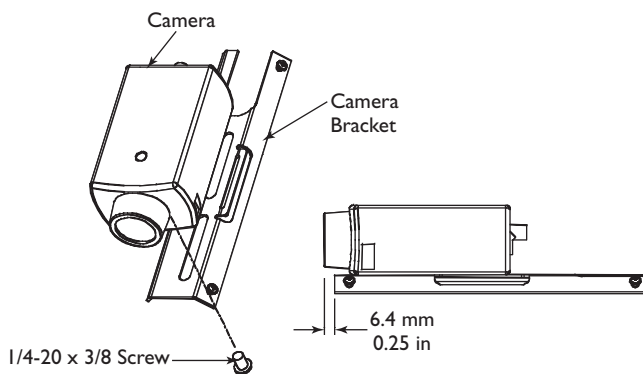

Figure 4: Attaching the Camera
2. Use the 1/4-20 x 3/8-inch screw to mount the camera to the camera bracket. The lens should extend approximately 6 mm (0.25-inch) from the front of the camera bracket. See **Figure 4**.